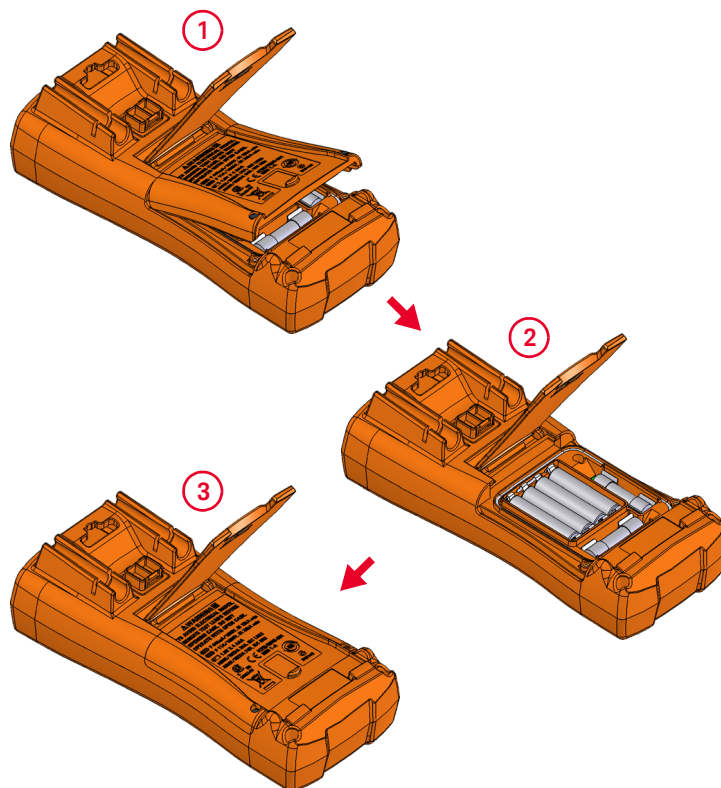

Figure 1-1 Installing the batteries
- 1 Open the battery cover.** Lift the tilt stand and loosen the screws with a suitable Phillips screwdriver and remove the battery cover as shown in Figure 1-1.